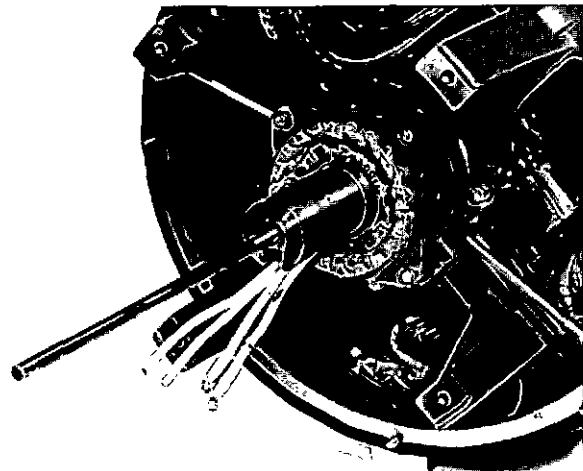
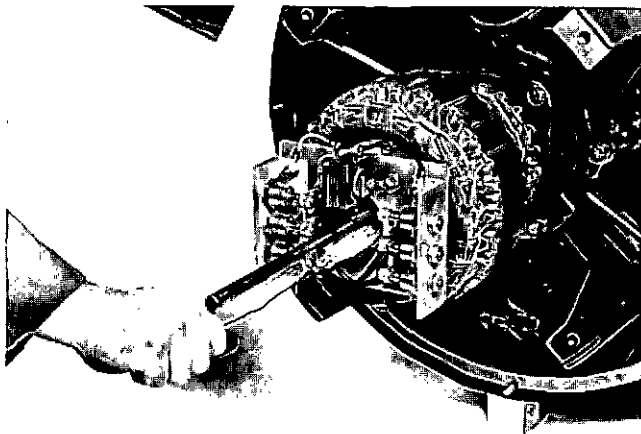

FIGURE 6-70
FIGURE 6-71
- Attach a wire to the main rotor leads and feed the wire through the armature bore and out the lead hole in the aluminum standoff plate. On larger exciters, it will be helpful to install a guide pin in the end of the shaft to support the armature while fishing the rotor leads through. (Figure 6-70.) Align the key in the armature bore to the keyway in the shaft. Slide the armature on the shaft while feeding the main rotor leads through the lead hole in the aluminum standoff plate. (Figure 6-71.)